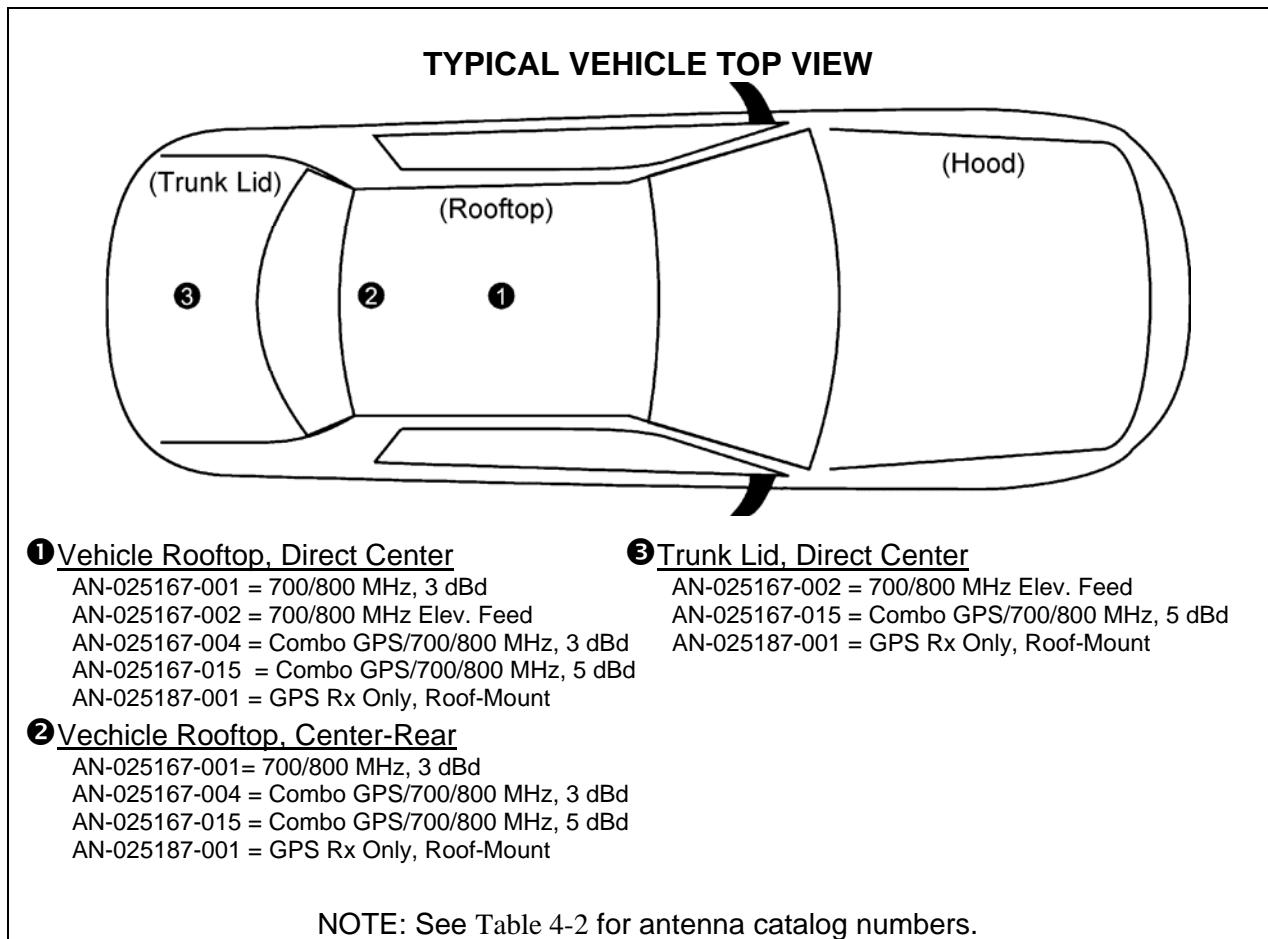

Figure 7-1: Recommended Antenna Mounting Locations With Antenna Part Numbers
At this time, review all information presented in the REGULATORY AND SAFETY INFORMATION section of this manual (begins on page 6). A transmitting antenna must be installed in accordance with the guidelines presented in the REGULATORY AND SAFETY INFORMATION section. Use Table 1-1 on page 8 and Figure 7-1 below as a guide for determining the best possible mounting configuration/location in order to reduce human exposure to radio frequency (RF) electromagnetic energy during transmit mode.
Antennas can be mounted in one of three (3) possible locations on the vehicle as described in the following subsections. Figure 7-1 shows the recommended locations and antenna part numbers for each location. Also, see Table 4-2 for additional information. Always follow manufacturer's instructions when mounting an antenna.
The center of the vehicle's roof is the best location for the rooftop antenna (❶ in Figure 7-1). For optimal performance, the mounting area under the antenna must be a flat with a minimum radius of six (6) inches of metal ground plane. It must be located directly in the center of the roof to minimize human exposure to RF electromagnetic energy. Other obstructions such as a light bar or another antenna may prevent the antenna from being mounted in the direct center of the roof. In this case, the antenna should be mounted a minimum of one foot away from and behind the obstruction but in the middle of the roof with respect to the left and right sides of the vehicle (❷ in Figure 7-1).
Certain vehicles do not allow for the antenna to be placed in the center or center-rear of the roof. In this case, the next best location for the antenna is in the direct center of the trunk lid (❸ in Figure 7-1). In this case, an elevated-feed-point antenna is recommended. Although this type of antenna does not require a metal ground plane, it must be located directly in the center of the trunk lid to minimize human exposure to RF electromagnetic energy.